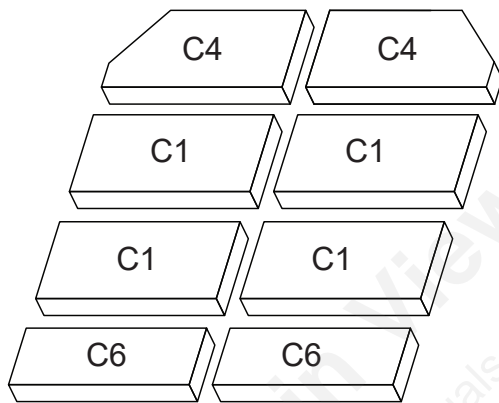

Figure 2
3. Install bottom bricks. Lay bottom bricks in appliance (**Figure 2**).